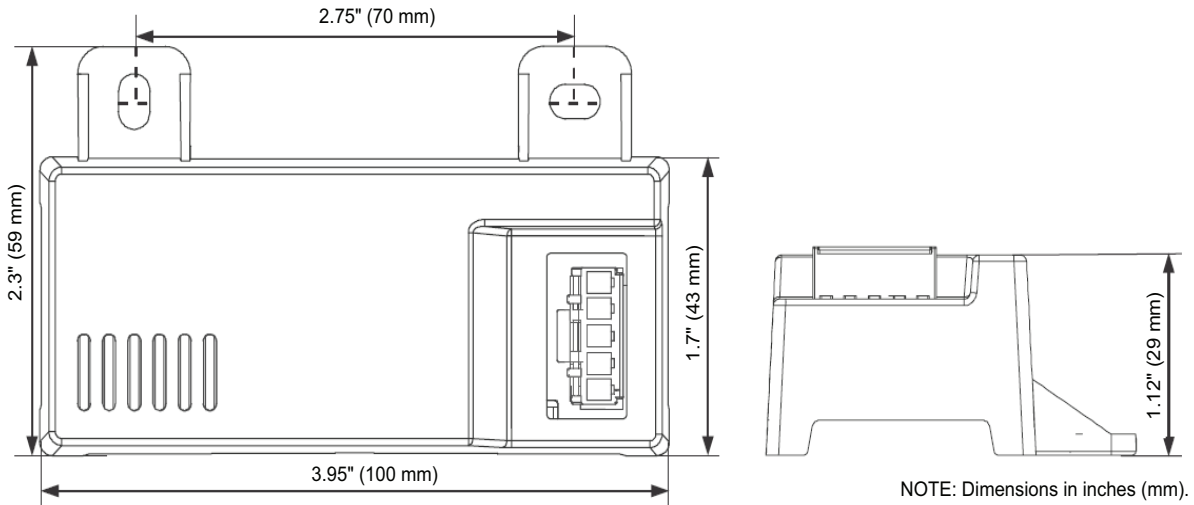
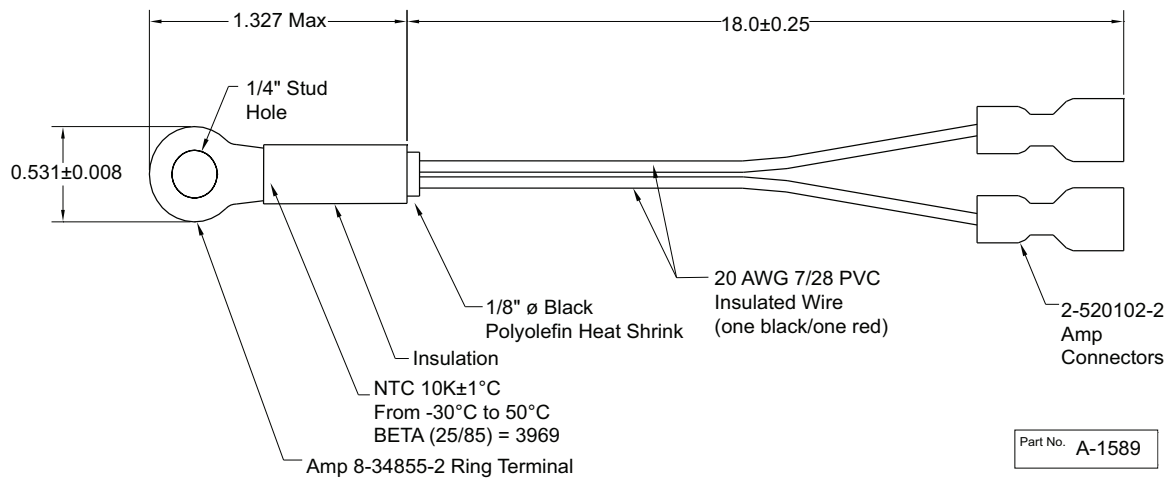
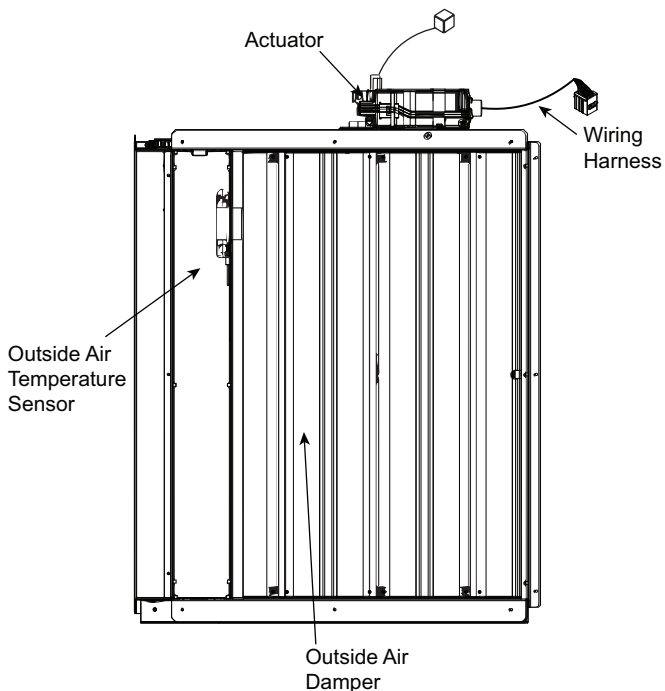

Fig. 61 — HH57LW001 Dimensional, Connection and Switching Information
Fig. 62 — HH79NZ039 Dry Bulb and Mixed Air Sensor Wiring
Fig. 63 — EconomizerONE Component Locations (CRECOMZR108A00 Shown)
When using the HH57LW001 enthalpy sensor (see Fig. 61) for outside air changeover, the existing HH79NZ039 dry bulb sensor (see Fig. 62) must be removed. The enthalpy sensor will be mounted in the same location as the dry bulb sensor (see Fig. 63). When the enthalpy sensor's OA (Outside Air) temperature, enthalpy, and dew point are below their respective setpoints, the outside air can be used for free cooling. When any of these are above the setpoint, free cooling will not be available. Enthalpy setpoints are configurable and create an enthalpy boundary according to the user's input. For additional details, see Fig. 64-65 and Table 27.
The optional enthalpy control sensor (P/N: HH57LW001) communicates with the POL224 economizer controller using the 5-wire harness, 48TC005213. The HH57LW001 sensor can be used as a single outside air enthalpy, a differential return enthalpy, or a differential return temperature sensor. Refer to the base unit control wiring diagrams found earlier in this book to wire the HH57LW001 enthalpy sensor for each option. Use Fig. 61 and Table 29 on page 46 to locate the wiring terminals for each enthalpy control sensor.
Economizers are shipped standard with an HH79NZ039 outside air dry bulb sensor (see Fig. 62). System default setting (high temp limit) is 63°F (17°C) and has a range of 48°F to 80°F (9°C to 27°C). Sensor is factory installed on economizer.
If installing the optional HH57LW001 enthalpy sensor, the HH79NZ039 dry bulb outside air sensor must first be removed. Wire sensor to harness 48TC005213 and the (5) wires from the harness to the EconomizerONE harness in the return air chamber. Harness 48TC005213 has a 5-pin plug that connects directly to the HH57LW001 enthalpy sensor. Refer to the base unit control wiring diagrams earlier in this book for wiring connections. Refer to Fig. 61 and Table 29.